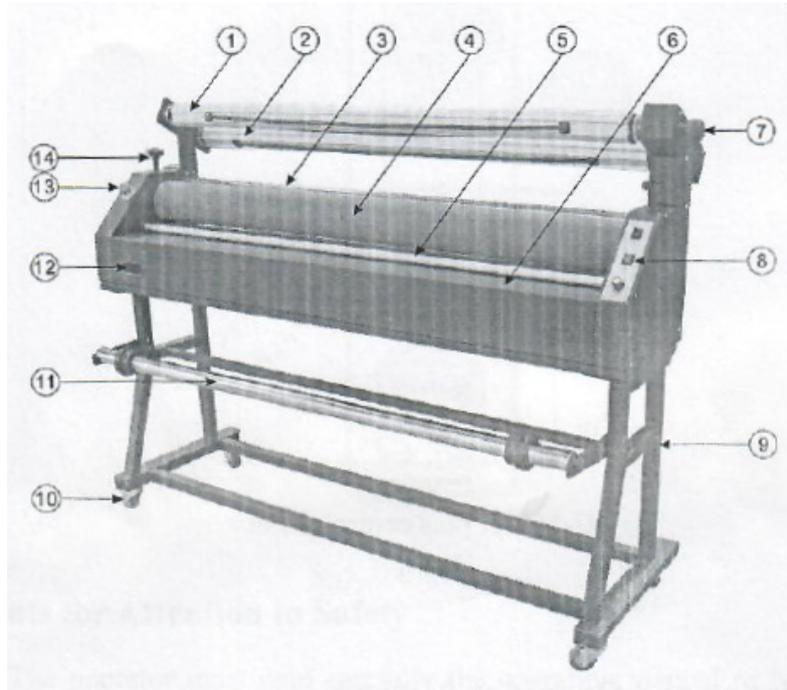

Fig. 1
- d. The roller for supporting film and roller for collecting back paper can be quickly installed or removed. Aluminum roller is installed three rubber strips to jam the paper core of roll film. One side of the collecting back paper have a bakelite handle (Fig.1) to adjust the friction and promising the speed of the collecting back paper and of laminating is same. Turn the handle in clockwise counter-clockwise to increase or decrease the damping.